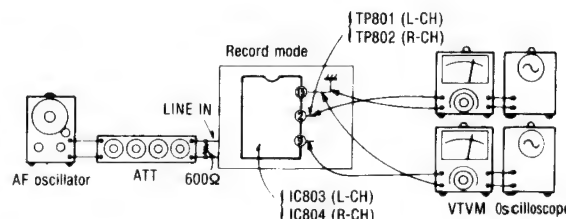

Fig. 19
1. Make connections as shown in fig. 19.